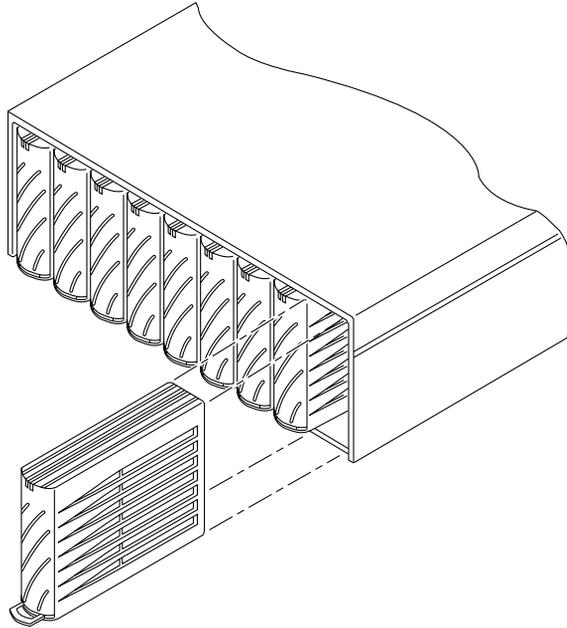

FIGURE 5-5 Removing a Disk Drive
6. Remove the disk drive from the disk tray. See FIGURE 5-5.